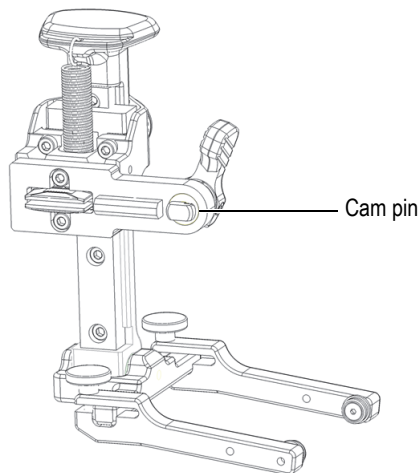

Figure 2-10 Horizontally aligned flat edges
1. Using the position lever, align the position of the cam pin so that the flat edges are aligned horizontally (Figure 2-10 on page 43).